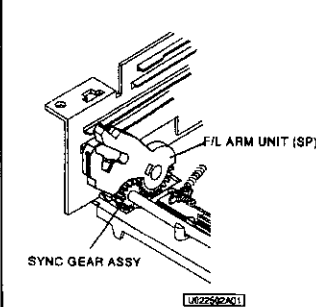

Fig. 2-25-2
- 2 Install the F/L ARM UNIT (SP) so that the gear of the F/L ARM UNIT (SP) and that of the SYNC GEAR ASSY are engaged as shown in Fig. 2-25-2.